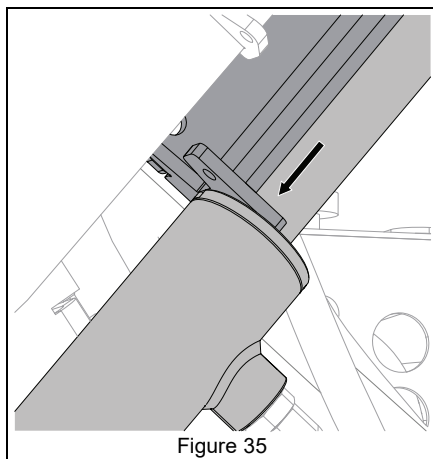

Figure 35
5. Turn engine Off. Turn key back to On, but do not start engine. Push safety interlock to activate hydraulics. Move joystick to down position to allow lift arms to drop down onto lift arm support. See Figure 35.